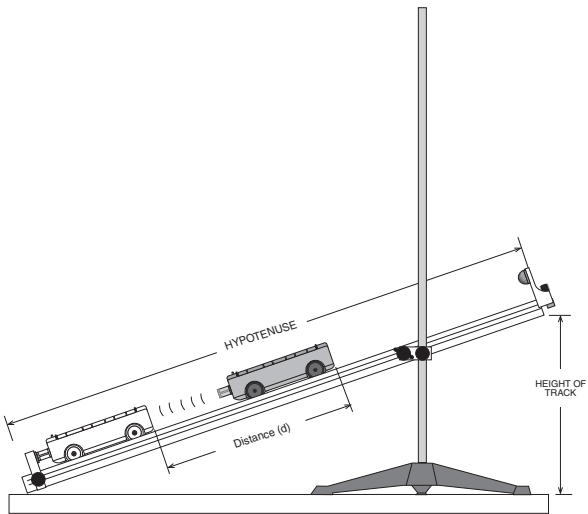

Figure 9.2
- 8. Incline the track and measure its height and hypotenuse (see Figure 9.2) to determine the angle of the track.